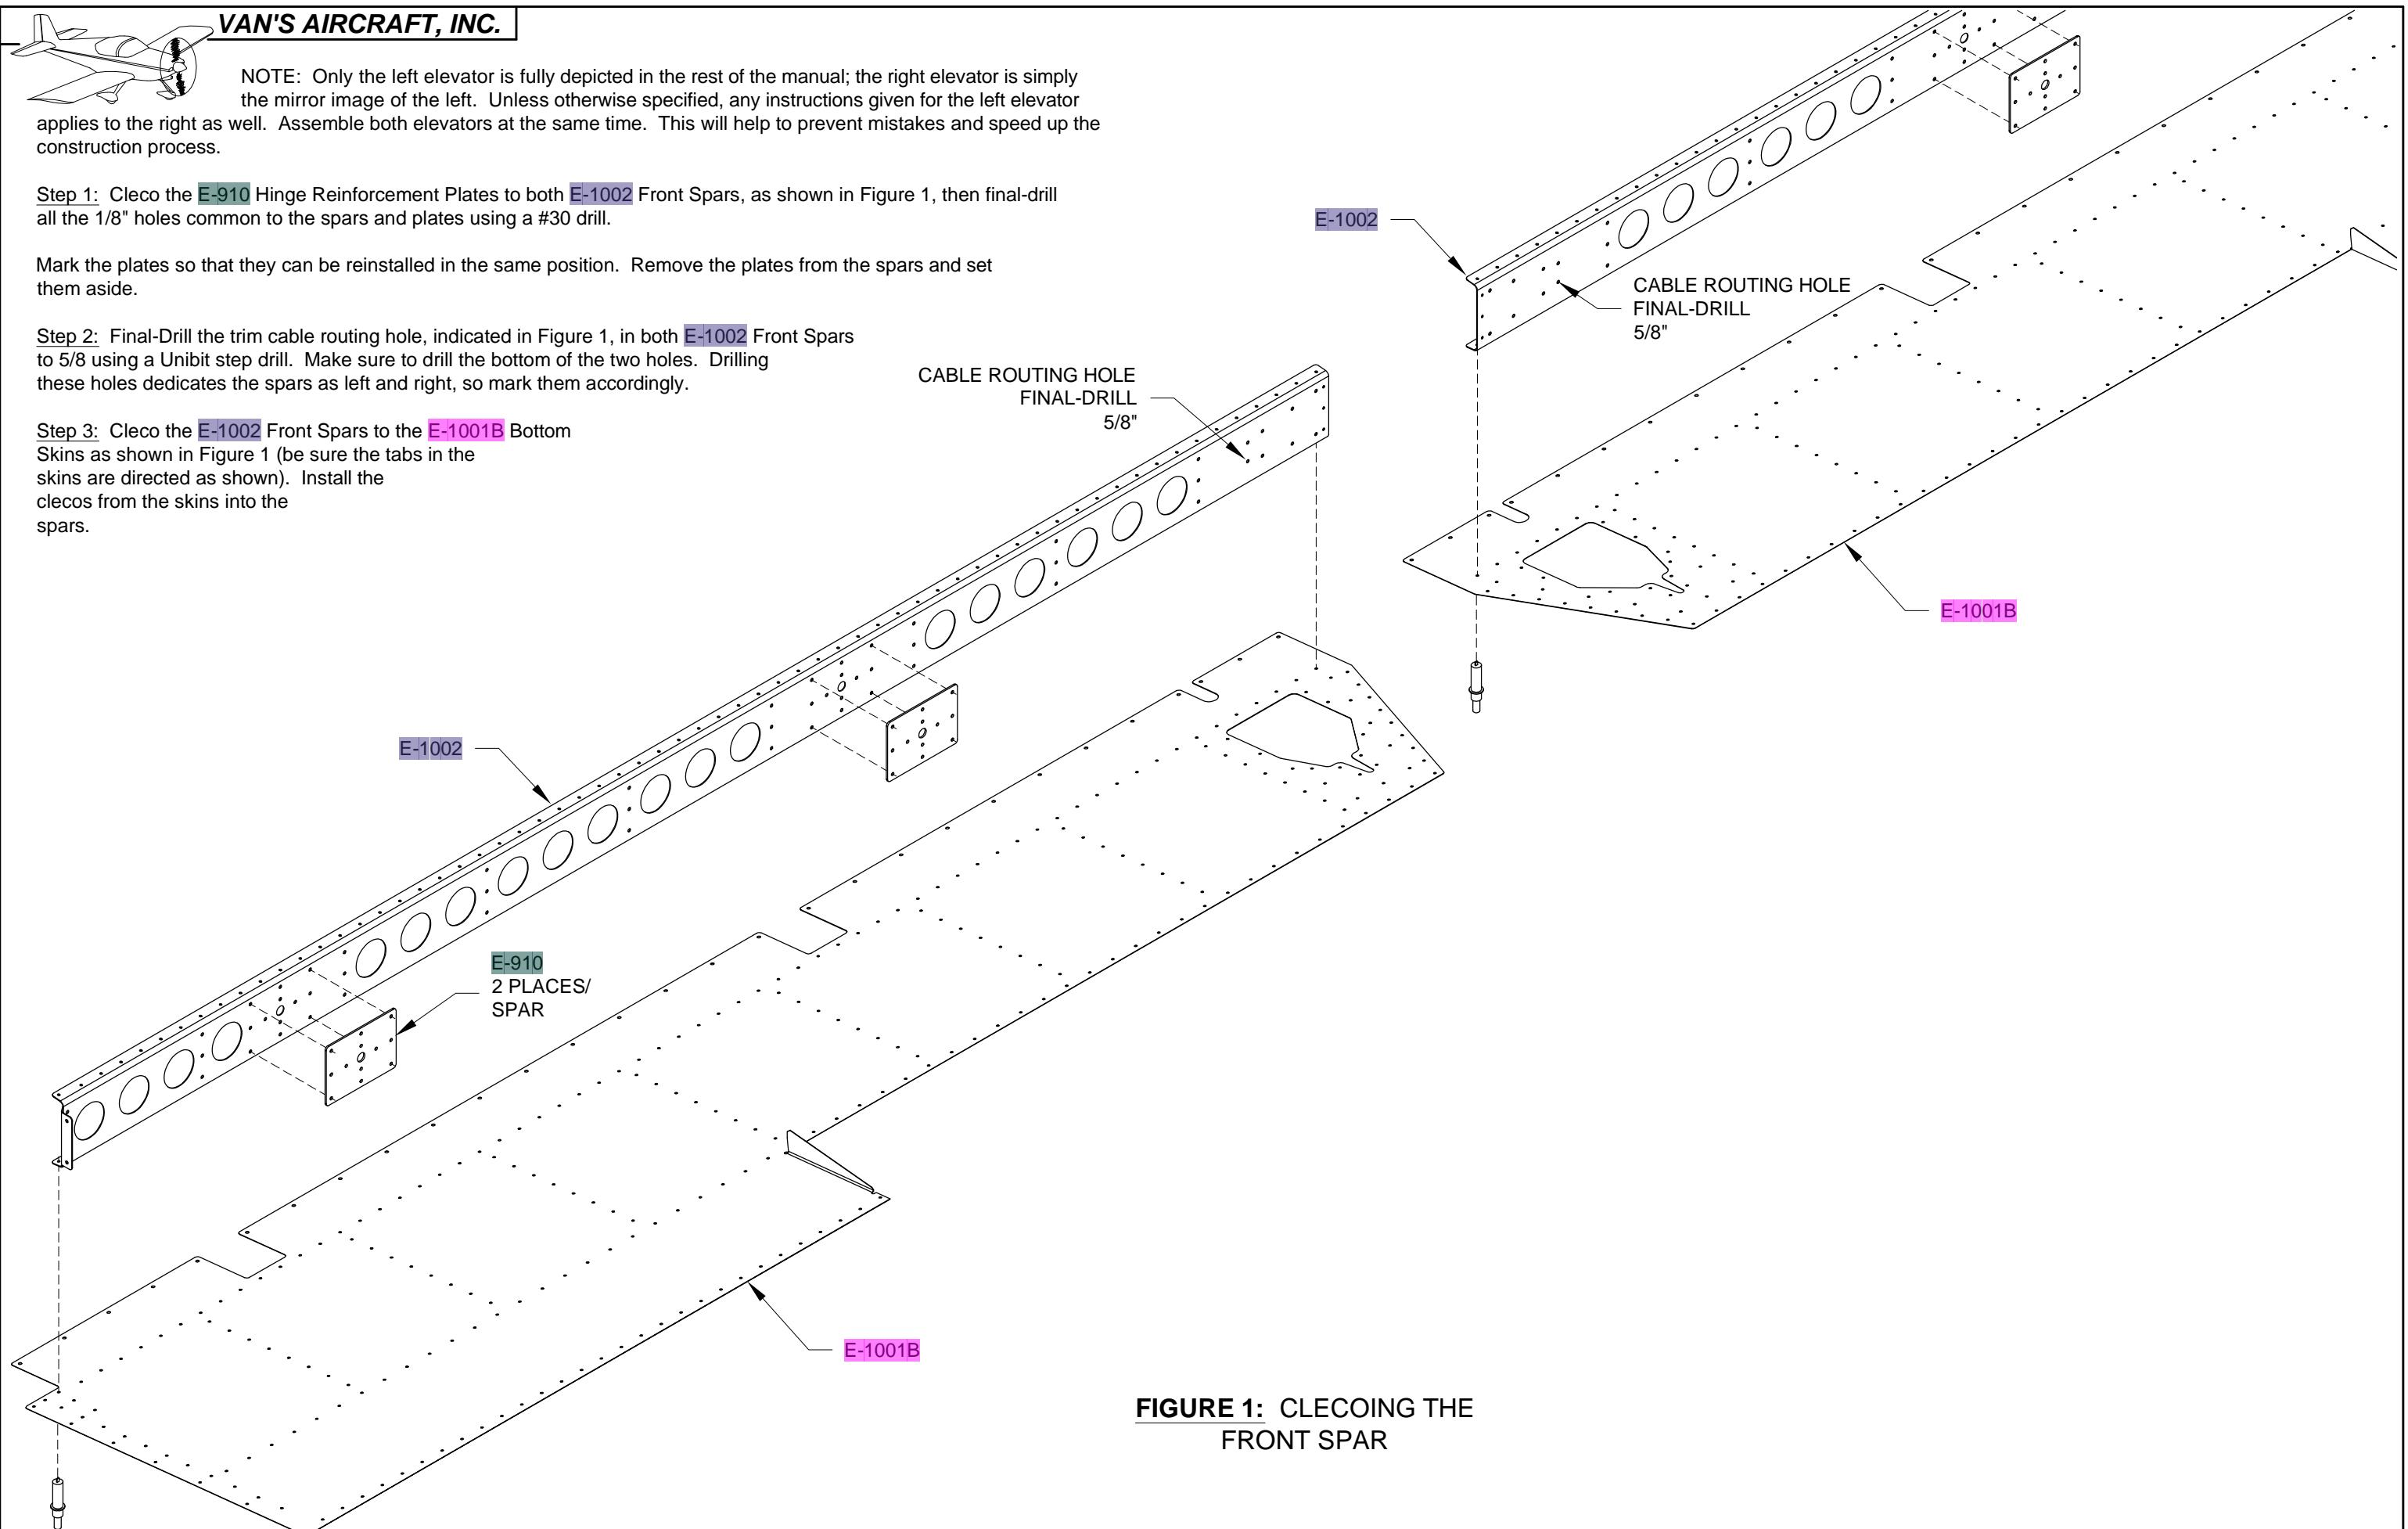

FIGURE 1: CLECOING THE FRONT SPAR
Step 2: Final-Drill the trim cable routing hole, indicated in Figure 1, in both E-1002 Front Spars to 5/8" using a Unibit step drill. Make sure to drill the bottom of the two holes. Drilling these holes dedicates the spars as left and right, so mark them accordingly.
Step 3: Cleco the E-1002 Front Spars to the E-1001B Bottom Skins as shown in Figure 1 (be sure the tabs in the skins are directed as shown). Install the clecos from the skins into the spars.